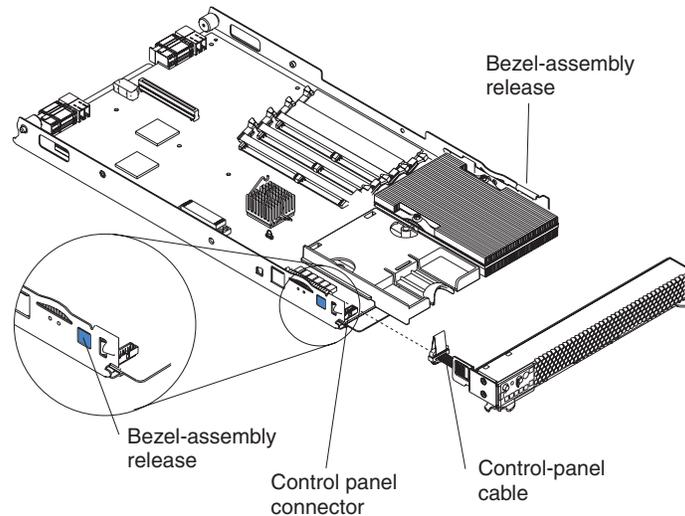

Figure 17. Blade server bezel placement
Figure 17 shows how to install the bezel assembly on the blade server.
3. Carefully slide the bezel assembly onto the blade server as shown in Figure 17, until it clicks into place.